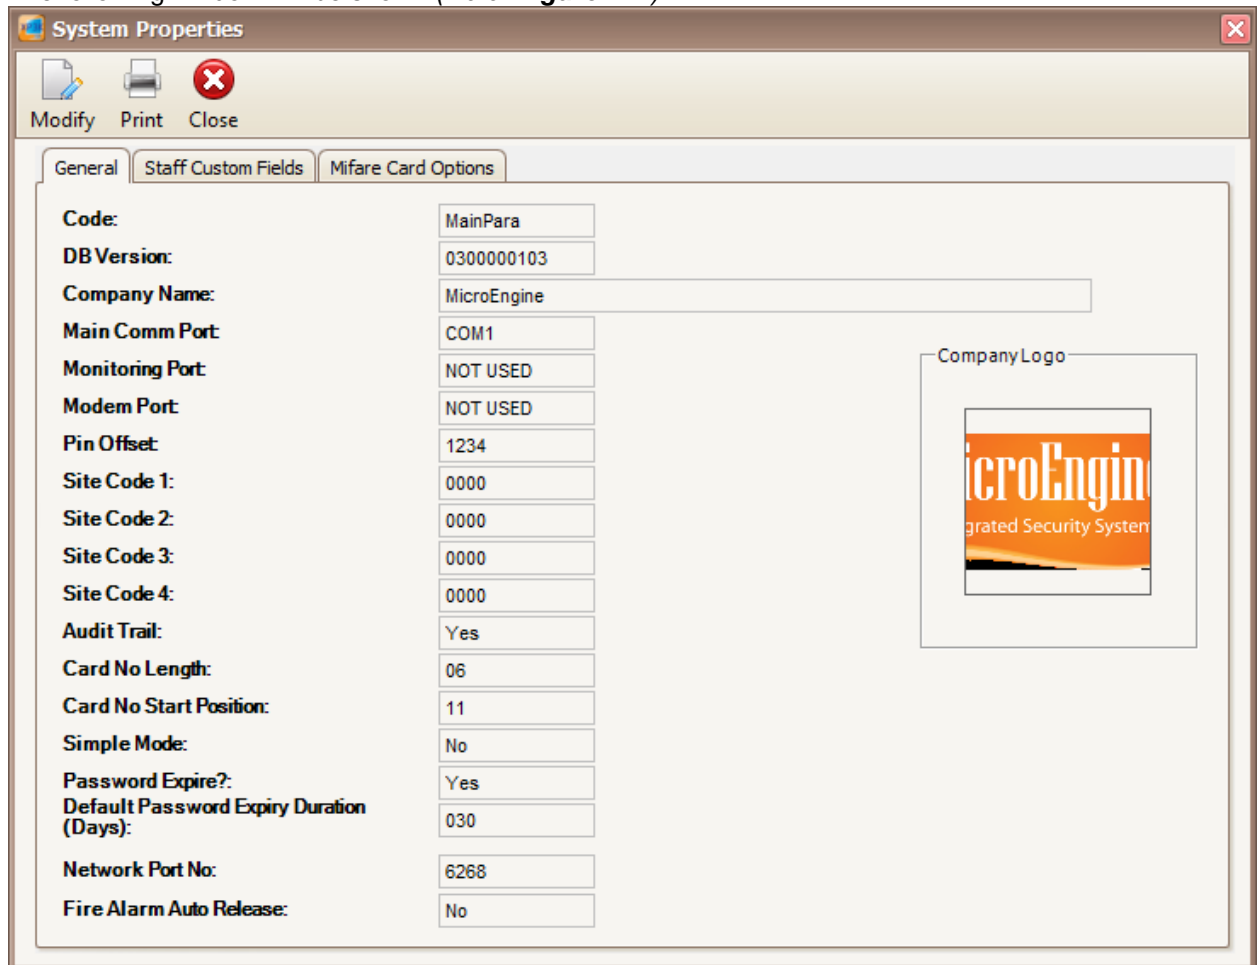

Figure 144 - System Properties
2. The following window will be shown (Refer **Figure 144**).